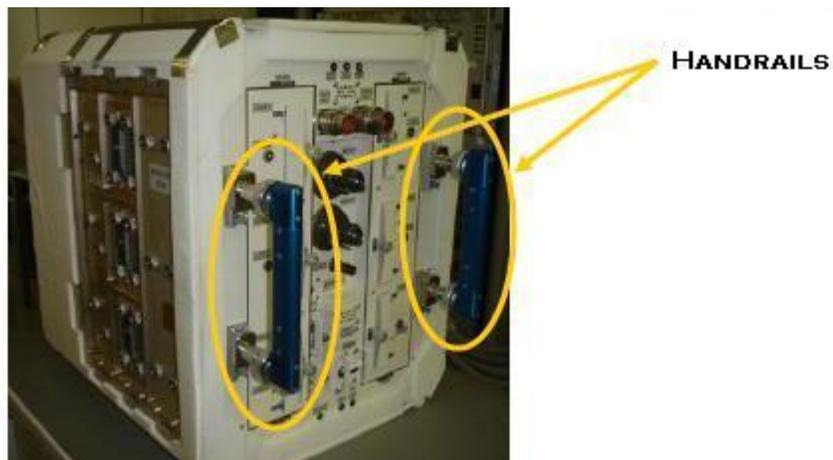

Figure 2. Handrail Placement
8. Mount 8.5" Handrail Assembly (two) to the seat track located on the front panel of the MDS facility as shown in Figure 2.